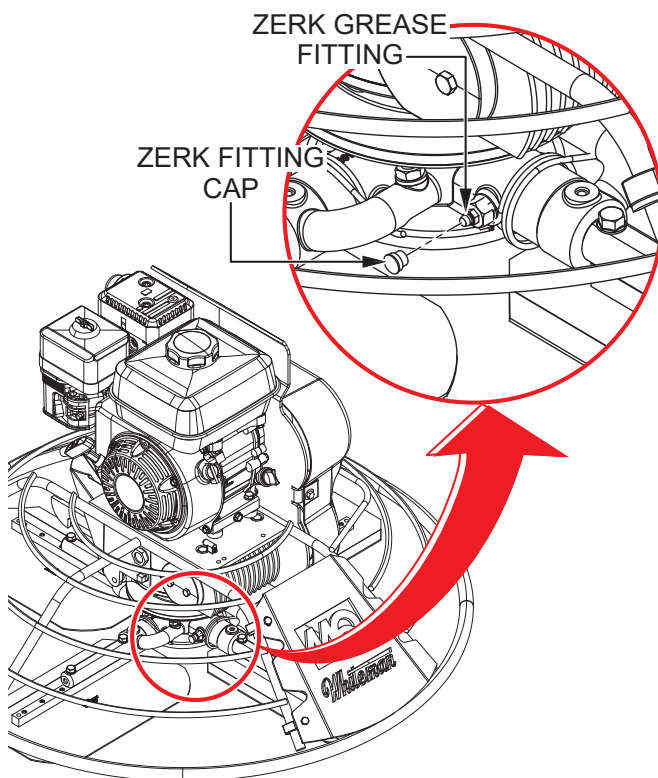

Figure 58. Spider Lubrication
1. Locate one of the Zerk grease fittings on the spider assembly (Figure 58). Remove the Zerk fitting cap and set it aside.